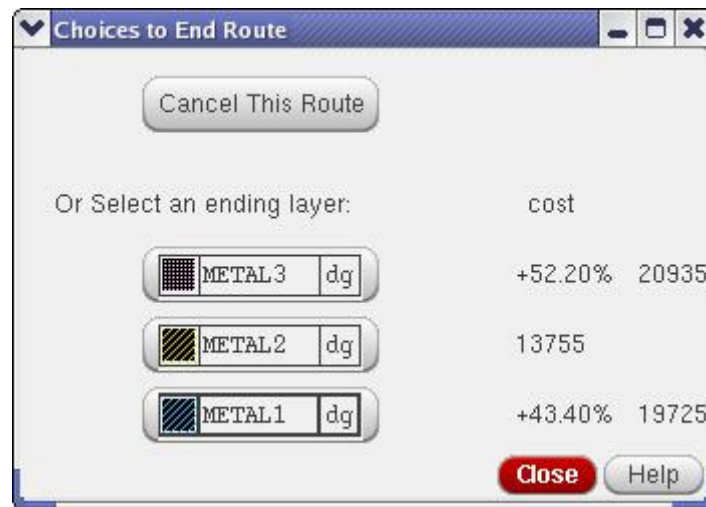

FIG.35a Choices to stop route when the user hit “Esc” key
- 4) “Esc” key will stop the routing. However, before quitting from the stepRouter, the user can either select a possible routing result (without shorting to the layers under the ending point) based on the cost value or cancel the connection from the popup the dialog as shown in FIG. 35a.